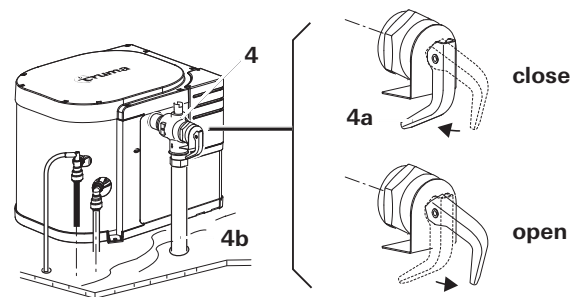

Fig. 2a
Check that the drain valve (3) and the P&T safety valve (Fig. 2a - 4) in the cold water intake are closed.
- Test lever (Fig. 2a - 4a) of the pressure relief valve (4) must be in the "close" position.
- Do not place a plug or reducing coupling in the discharge pipe (Fig. 2a - 4b) of the P&T safety valve.
Allow the appliance to cool and then slowly raise the test lever (Fig. 2a – 4a) to flush the water system and attempt to force dirt or foreign matter out of the P&T safety valve seat.